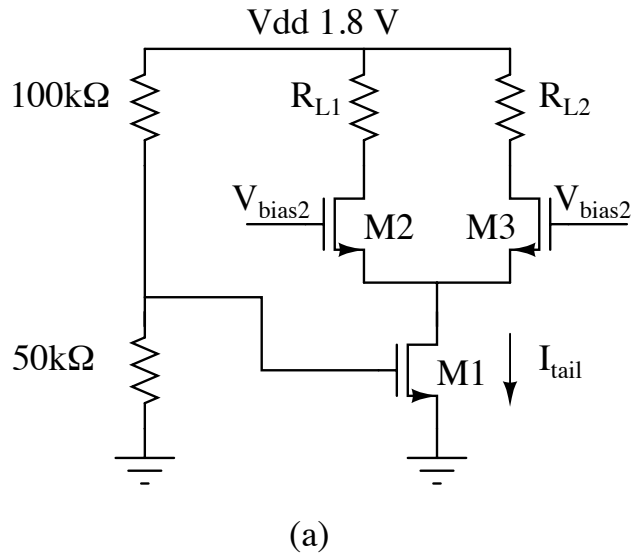
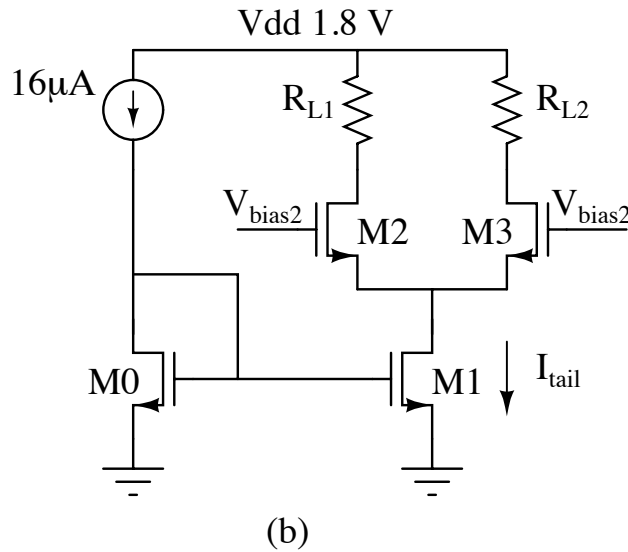
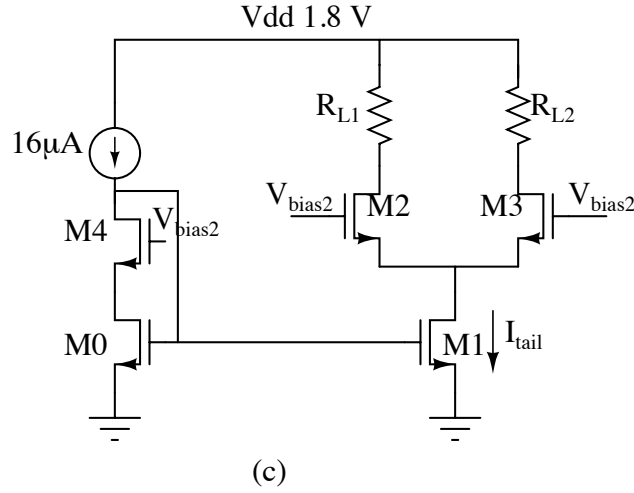

Figure 1: Biasing Scheme (a)
Figure 2: Biasing Scheme (b)
Figure 3: Biasing Scheme (c)
Consider the biasing of the differential pair shown in Fig1, Fig2, Fig3. All device sizes are indicated in the following table. The differential pair is intended to be operated with all transistors in saturation in strong inversion. In other words, assume that the input signals to the differential pair are small and swing around some bias voltage v_{bias2} (or equivalently the current through the two transistors M2, M3 varies around $\frac{I_{tail}}{2}$).
- Here (Fig2) the gate voltage applied to the transistor M1 is obtained by biasing a similar transistor (M0) using a reference current source. If we assume all transistors have infinite output impedance, what is the current I_{tail} ? If instead the transistors M0 and M1 have a $g_m r_o$ of 10, and the drain of M1 is assumed to be at 550 mV , what is the value of I_{tail} ? (Hint: use small signal analysis to provide a rough estimate of the current)
- Here (Fig3) we try to further improve the current mirrored in to M1. What do you think is the reason behind a claim that this scheme is better than the scheme shown in Fig2? For best results, what should the size of the device M4?